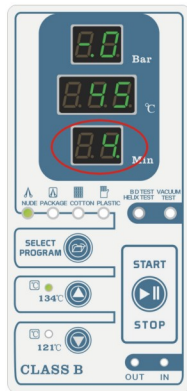

Fig. 8.4-2
(2) **First times Pre-vacuum stage:** when the temperature over than 40°C, the sterilizer will start to do vacuum and the control system will open the vacuum pump solenoid valve (Ev4). time display window show “4”, the “pressure display window” show “-0.0”, the “temperature display window” show “temperature in chamber”. “Time display window show 4,3,2,1” means vacuum working time countdown, if within 4 minutes, the vacuum value of less than Pv (factory default setting Pv=-0.80bar) value, there will be alarm E12 or the vacuum value reaches Pv value in advance, sterilization program into heating stage in advance. (Fig.8.4-2)
(5)**Second times Pre-vacuum stage:**when the pressure down to 0.0bar,the sterilizer will start to do vacuum and the control system will open the vacuum pump solenoid valve(Ev4).time display window show “4” , the “pressure display window” show “-.0” ,the “temperature display window” show “temperature in chamber” . “Time display window show 4,3,2,1” means vacuum working time countdown,if within 4 minutes, the vacuum value reaches -0.7bar value in advance, sterilization program into heating stage in advance.(Fig.8.4-2)
(8)**third times Pre-vacuum stage:**when the pressure down to 0.0bar,the sterilizer will start to do vacuum and the control system will open the vacuum pump solenoid valve(Ev4).time display window show “4” , the “pressure display window” show “-.0” ,the “temperature display window” show “temperature in chamber” . “Time display window show 4,3,2,1” means vacuum working time countdown,if within 4 minutes, the vacuum value reaches -0.7bar value in advance, sterilization program into heating stage in advance.(Fig.8.4-2)